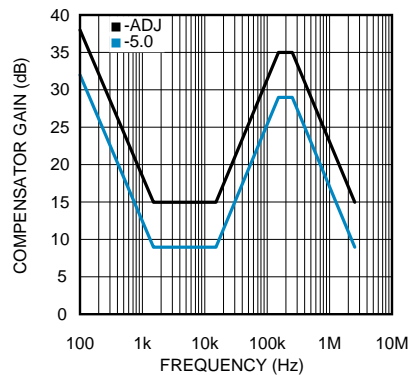

Figure 15. Compensator Gain
The complete transfer function for the regulator loop is found by combining the compensation and power stage transfer functions. The LM22673 has internal type III loop compensation, as detailed in Figure 15. This is the approximate "straight line" function from the FB pin to the input of the PWM modulator. The power stage transfer function consists of a D.C. gain and a second order pole created by the inductor and output capacitor(s). Due to the input voltage feedforward employed in the LM22673, the power stage D.C. gain is fixed at 20dB. The second order pole is characterized by its resonant frequency and its quality factor (Q). For a first pass design, the product of inductance and output capacitance should conform to the following equation: